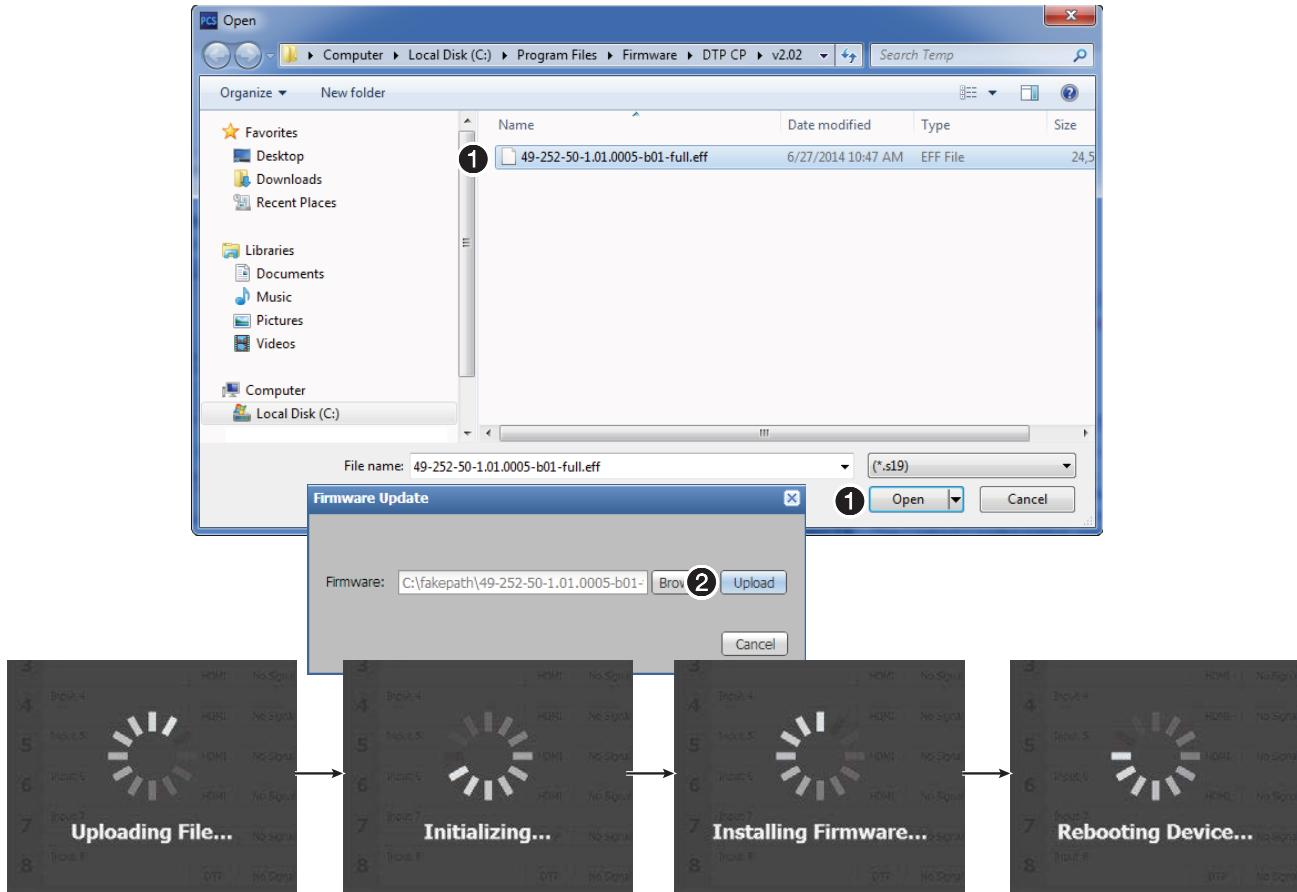

Figure 80. Updating Firmware
5. Click **Browse** (2). The Open dialog box opens (see **figure 80** on page 135).
6. Navigate to the folder where you saved the firmware upgrade file. Select the file and click **Open** (see figure 80, ①). The **Firmware Update** dialog box returns to the top.